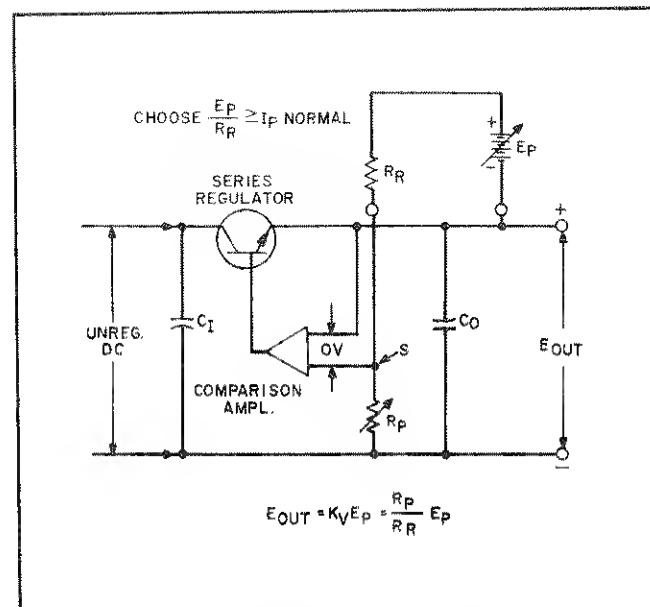
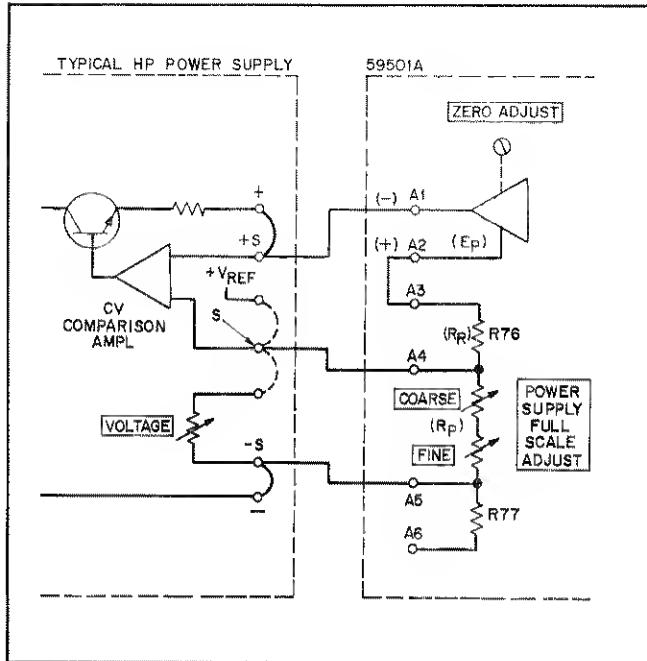

Figure 3-4. Voltage Programming with Variable Voltage Gain
Figure 3-5. Typical Connections for CV Programming
3-41 Figure 3-4 illustrates the method by which a power supply's constant voltage output can be programmed using an external voltage with a voltage gain dependent upon the ratio of R_p to R_R . Note that this method is no different from the circuit normally used for constant voltage control of the output except that an external reference (the programming voltage source) has been substituted for the internal reference. On most supplies, external terminals are available so that the connections shown in Figure 3-4 can be accomplished without any internal wiring changes. In all HP remotely programmable power supplies, the summing point S is made available, and the configuration of Figure 3-4 can always be accomplished using the external programming voltage source E_p and external precision wire-wound resistors R_p and R_R . (R_R should not exceed 10k.) As indicated by the equation in Figure 3-4, R_p can be selected so that the resulting voltage gain is either less or greater than unity. It is possible to use the front panel control on the supply as the voltage gain control R_p .
3-42 Constant Voltage. Figure 3-5 illustrates the connections required for the 59501A to program the constant voltage (CV) output of a typical HP power supply. Note the similarities between Figures 3-4 and 3-5. The 59501A includes R_R (R76), R_p (COARSE and FINE POWER SUPPLY FULL SCALE ADJUST), and E_p (59501A output between terminals A1 and A2). The extra resistor (R77) between terminals A5 and A6 is used only when programming power supplies above 300 volts.
3-43 As shown in Figure 3-5, the supply's internal reference voltage ($+V_{REF}$) and VOLTAGE control are disconnected (dotted lines) and are replaced with the 59501A's output voltage and POWER SUPPLY FULL SCALE ADJUST. Note that in the unipolar mode, 59501A output terminal A1 is negative with respect to A2. This polarity must be complied with when making connections. The connections shown in Figure 3-5 are typical for most supplies.